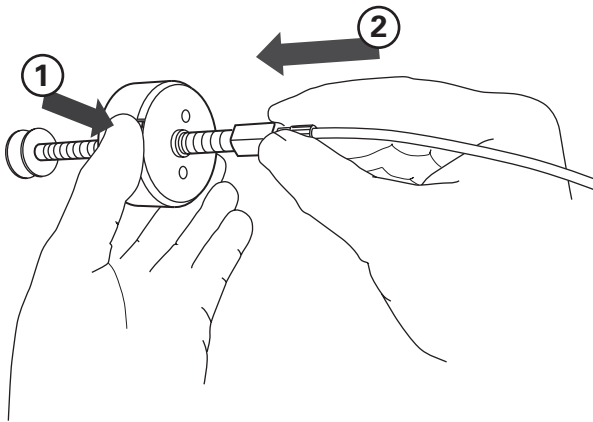

Figure 2: Press the lever and extend the plunger
2. Press the lever on the side of the cap and fully extend the plunger (Figure 2).